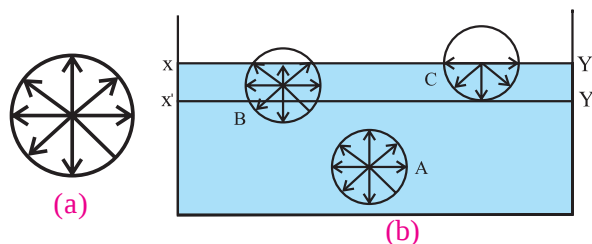

Fig. 2.15: (a) sphere of influence and (b) surface film.
c) Sphere of influence: An imaginary sphere with a molecule at its center and radius equal to the molecular range is called the sphere of influence of the molecule. The spheres around molecules A, B or C are shown in Fig. 2.15 (a) and (b). *The intermolecular force is effective only within the sphere of influence.*
d) Surface film: The surface layer of a liquid with thickness equal to the range of intermolecular force is called the surface film. This is the layer shown between XY and X'Y' in Fig. 2.15 (b).
(e) Free surface of a liquid: It is the surface of a fluid which does not experience any shear stress. For example, the interface between liquid water and the air above. In Fig. 2.15 (b), XY is the free surface of the liquid.
(f) Surface tension on the basis of molecular theory: As shown in Fig. 2.15 (b), XY is the free surface of liquid and X'Y' is the inner layer parallel to XY at distance equal to the range of molecular force. Hence, the section XX'-Y'Y near the surface of the liquid acts as the surface film. Consider three molecules A, B, and C such that molecule A is deep inside the liquid, molecule B within surface film and molecule C on the surface of the liquid.
b) Surface Energy: We have seen that a molecule inside the volume of a liquid (like molecule A in Fig 2.15) experiences more cohesive force than a molecule like molecules B and C in the surface film of the liquid in that figure. Thus, work has to be done to bring any molecule from inside the liquid into the surface film. Clearly, the surface molecules possess extra potential energy as compared to the molecules inside the liquid. The extra